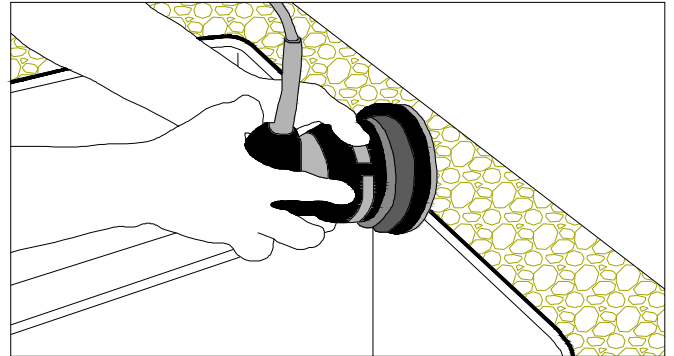

Figure 23A
- Sand the edge of the laminate and sink wall with a random orbital palm sander. Use a 150 to 220 grit sandpaper. (FIG. 23A)